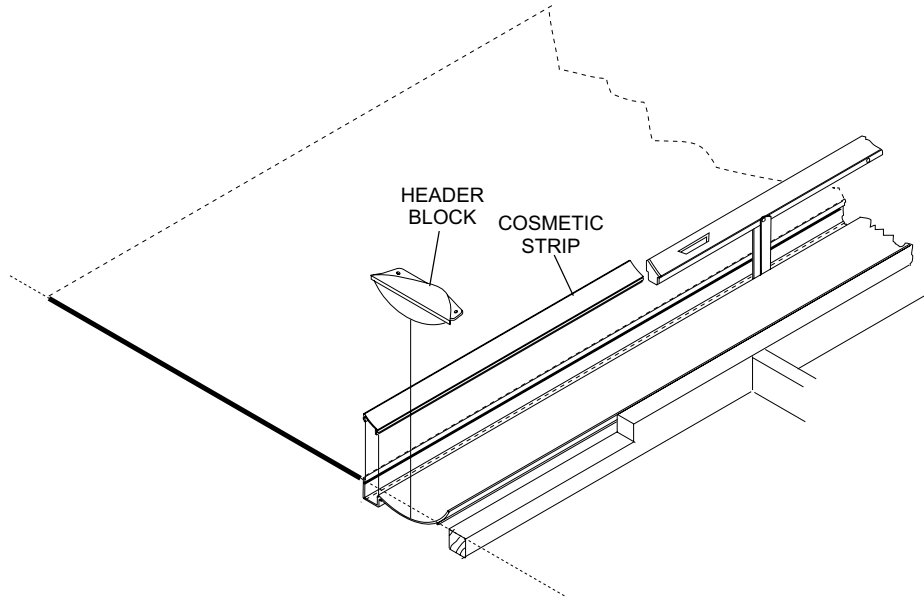

Figure 4
- At the foul line, remove the screws securing the header block to the gutter and remove the header block and cosmetic strip. Set aside for reinstallation later. Refer to *Figure 4*.
14. Reinstall the cosmetic strip and transition block at the foul line. Refer to *Figure 4*.